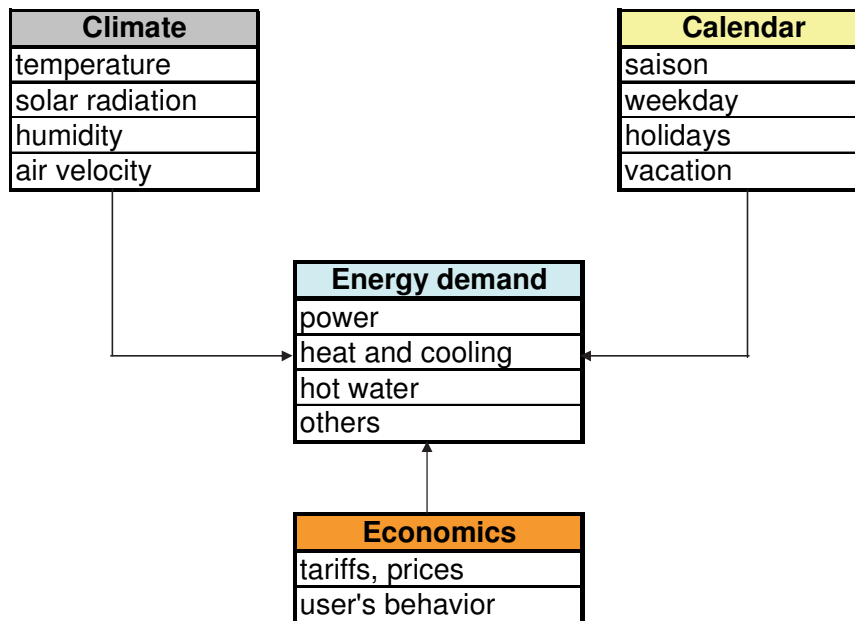

Fig. 2. Relationship model of the energy demand
The energy consumption of the delivery district of a power plant depends on many different influence factors (fig. 2). Generally the energy demand is influenced by seasonal data, climate parameters, and economical boundary conditions. The heat demand of a district heating system depends strongly on the outside temperature but also on additional climate factors as wind speed, global radiation and humidity. On the other side seasonal factors influence the energy consumption. Usually the power and heat demand is higher on working days than at the weekend. Furthermore vacation and holidays have a significant impact on the energy consumption. Last but not least the heat and power demand in the delivery district is influenced by the operational parameters of enterprises with large energy demand and by the consumer's behavior. Additionally the power and heat demand follow a daily cycle with low periods during the night hours and with peaks at different hours of the day.
- analysis of the main influence factors (fig. 2)